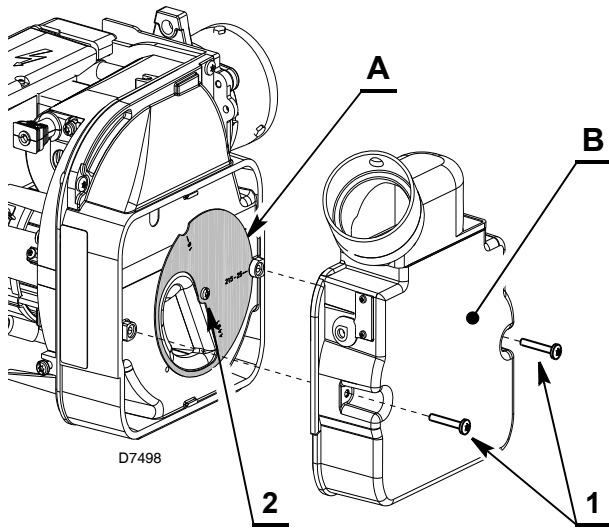
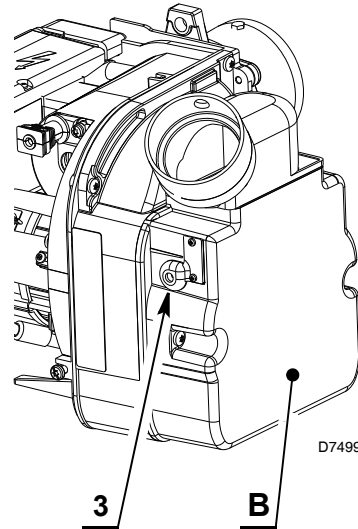

Fig. 17
Fig. 18
The air setting is performed by mean of two independent dampers (see Fig. 17 and Fig. 18).
Remove the secondary air damper (B) (Fig. 17) loosening the screws (1).
Tuning of this device is possible acting of the screw (3) (Fig. 18).